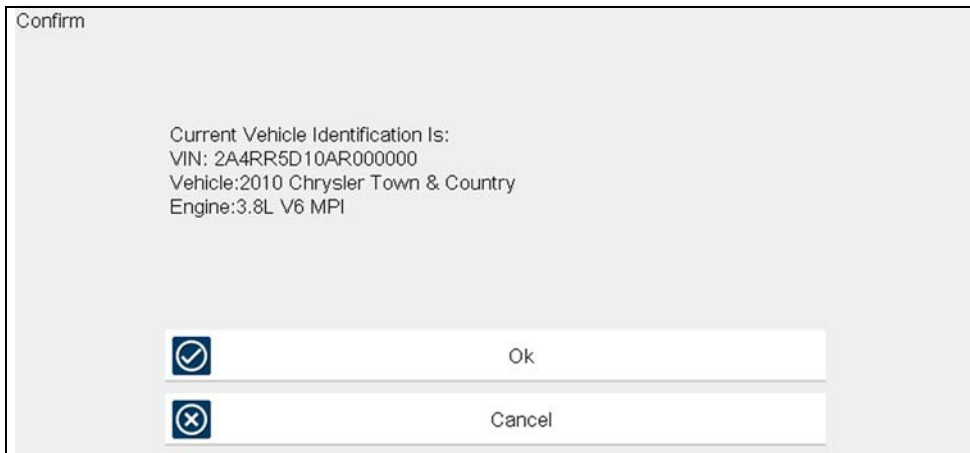

Figure 5-3 Vehicle confirmation screen
- a. Instant ID may occur, as indicated by an audible "beep" approximately 6 seconds after boot-up. Select the **Scanner** icon, then wait for the vehicle confirmation screen (Figure 5-3) and select **OK** to continue. Then proceed to **step 6**. See Instant ID on page 16, for additional information about this function.
- b2.) Once the vehicle has been identified, the vehicle confirmation screen displays (Figure 5-3). If the vehicle information is correct, select **OK** to continue, then proceed to step 6.